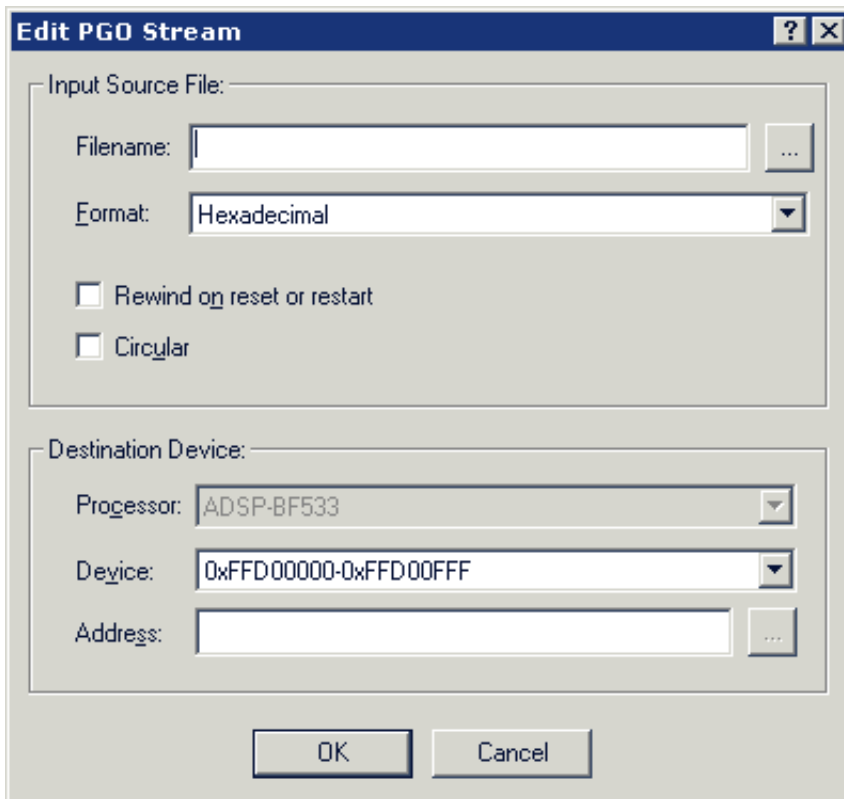

Figure 3-4. Edit PGO Stream Dialog Box
1. Click the **New** button to open the **Edit PGO Stream** dialog box, shown in Figure 3-4.